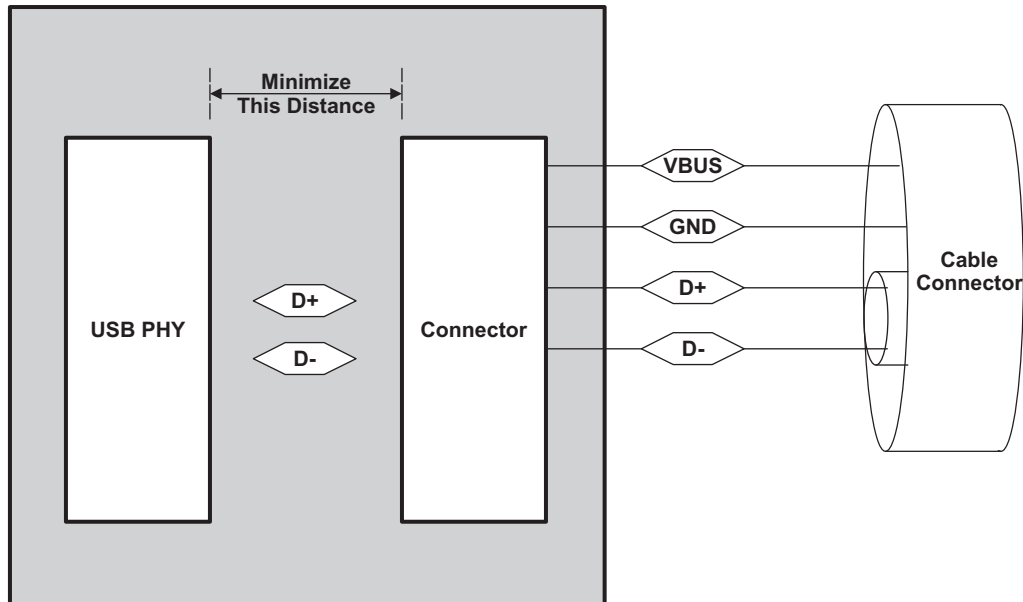

图 7-35. USB PHY Connector and Cable Connector
- DP/DM traces should always be matched lengths and must be no more than 4 inches in length; otherwise, the eye opening may be degraded (see 图 7-35).